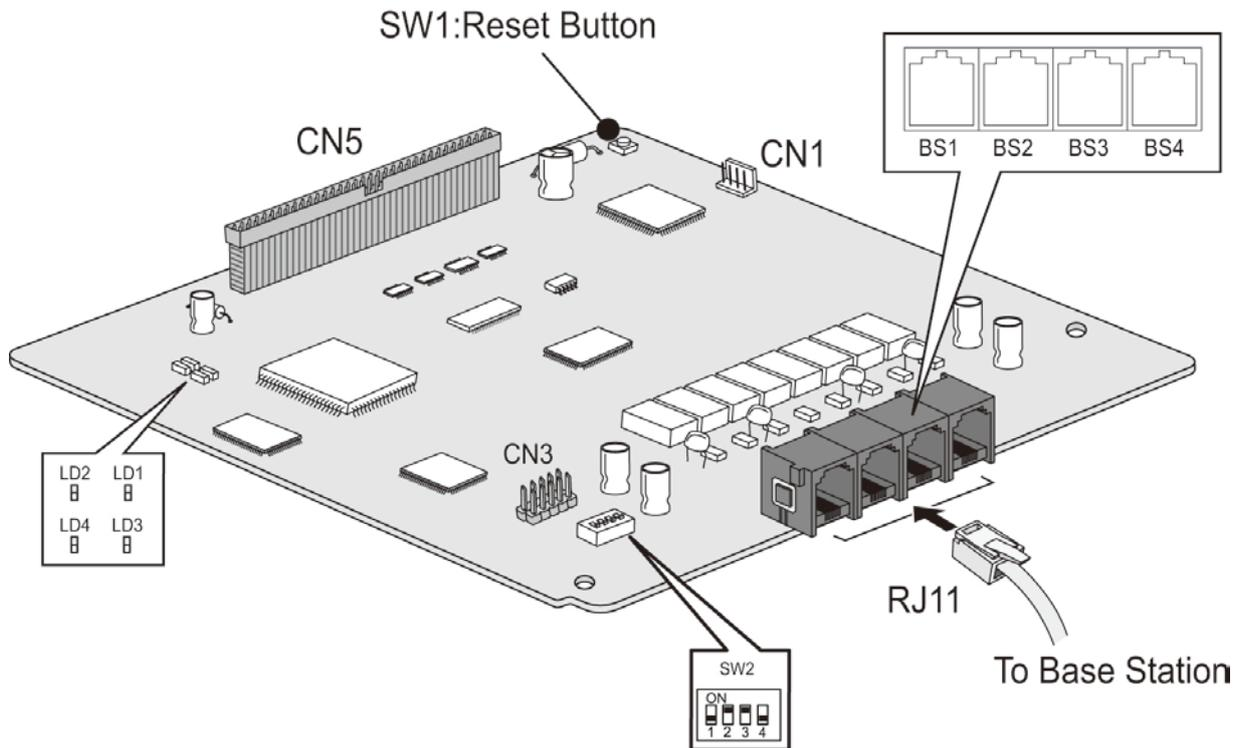

Figure 4.7.10-1 WTIB4
The WTIB4, shown in Figure 4.7.10-1, has four (4) interfaces to GDC-600BE multi-channel DECT Base Stations. Only one WTIB4 may be installed in the KSU of an eMG80 system. As access to the WTIB4 board may be required during installation of the Base Stations, we recommend installing the WTIB4 as the second Interface board on the KSU CN1 connector. The board is provided with two Standoffs that must be installed prior to mounting the board. To install the board in the KSU, refer to Section 4.4.